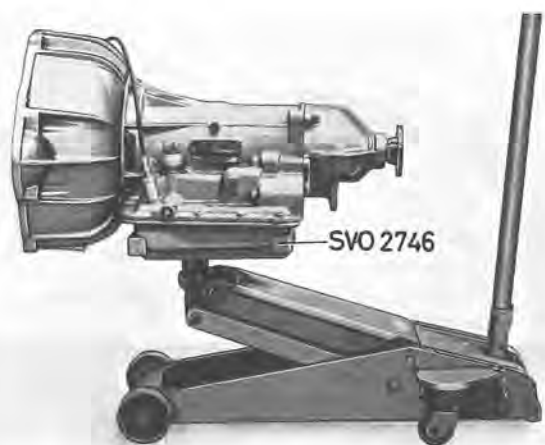

Fig. 4-79. Fixture for transmission
8. Disconnect the electric cables from the starter inhibitor. Unscrew the screws for the starter inhibitor. Place a jack with fixture 2746 under the transmission. See Fig. 4-79. Unscrew the attaching bolts for the converter casing. Pull the transmission backwards and release the guide pin on the converter at the same time. Lower and remove the transmission.